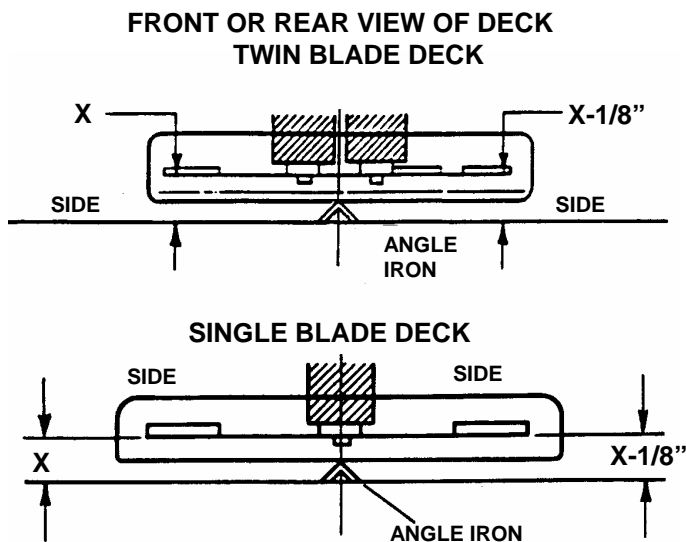

FIGURE 4.9
5. Measure the distance from blade tips to floor. If the measurement is within $1/8"$ from side-to-side, the deck levelness is satisfactory. If the difference from side-to-side is greater than $1/8"$, continue to the next page for adjustment. See Figure 4.9.